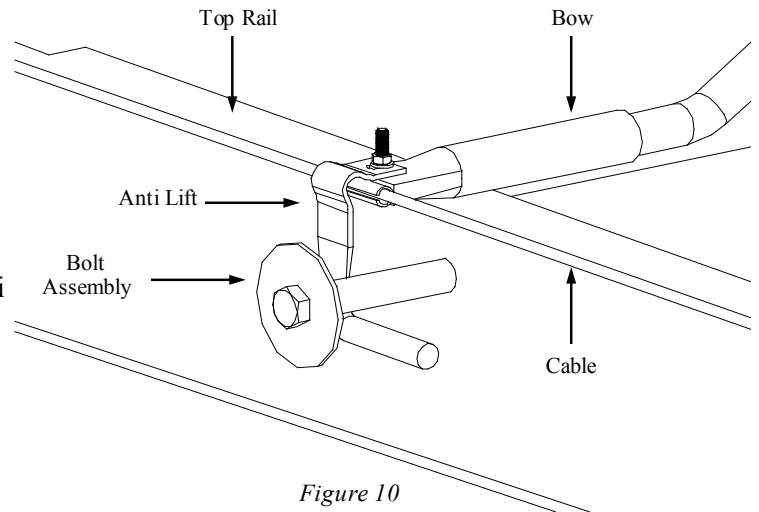

Figure 10
**Installing the Anti Lifts**, see figure 10, (notes: the anti lifts are installed to prevent the tarp from gaining lift due to air flow under the tarp. The number of anti lifts used is determined by the length of the system. Longer systems require more anti lifts, shorter systems require less. Anti lifts should be space evenly on bows). After determining the particular bows that will hold the anti lifts, the next step is to secure the anti lifts to the bows. The longest anti lift should be in front with the shortest anti lift at the rear.